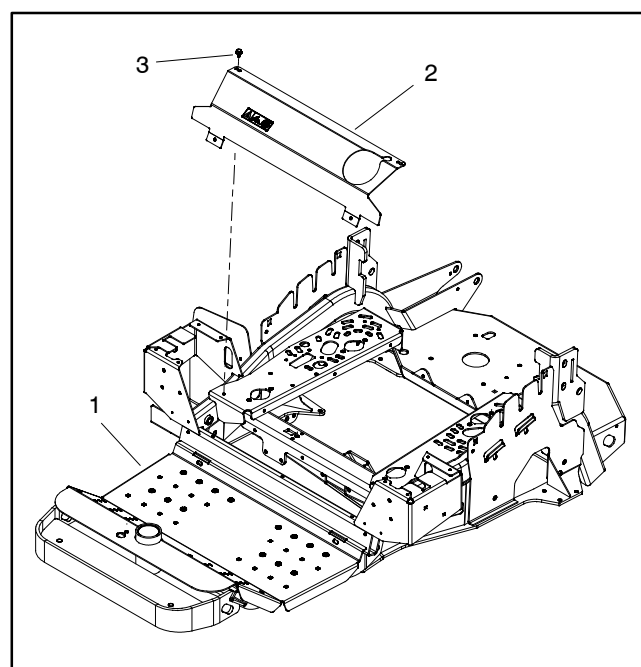

Figure 4
3. Remove washer head screw (item 8) that secures fuel tank cap retainer to frame.
4. Remove front cover from machine (Fig. 4).
7. Remove two (2) clamps (item 10) that secure fuel tank to machine frame.
2. Check that two (2) u-nuts (item 25) are properly placed in openings in machine frame.
4. Secure fuel tank to machine frame with two (2) clamps (item 10).
6. Secure front cover to machine (Fig. 4).
7. Secure fuel tank cap retainer to frame with washer head screw (item 8).